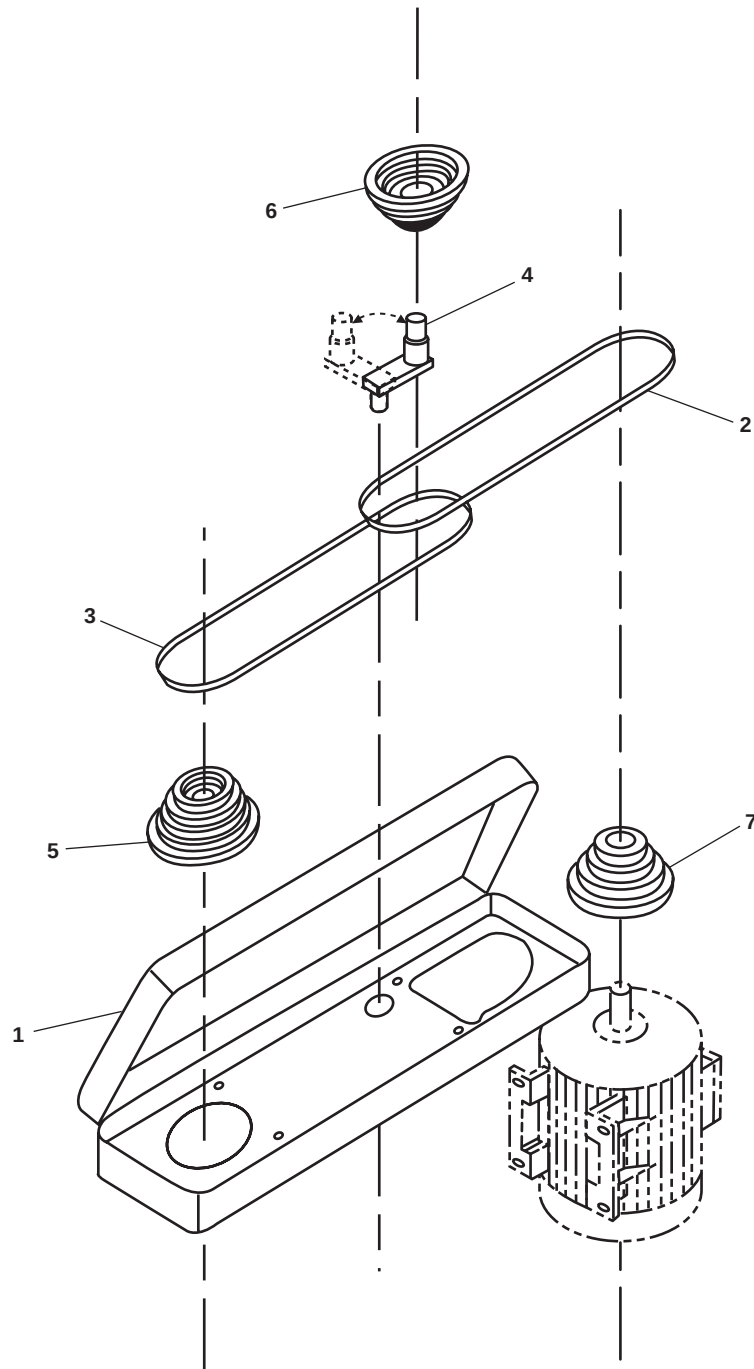

Figure 2. Drill Press Components
1. Open the pulley cover (figure 2, item 1) to gain access to the top V-belt (figure 2, items 2) and the bottom V-belt (figure 2, item 3).
2. Move the center pulley shaft (figure 2, item 4), toward the spindle pulley (figure 2, item 5) and pull the bottom V-belt (figure 2, item 3) upward and remove it from the center pulley (figure 2, item 6) and the spindle pulley.
3. Move the center pulley shaft (figure 2, item 4) toward the motor pulley (figure 2, item 7) and pull the top V-belt (figure 2, item 2) upward and remove it from the motor pulley and the center pulley.
1. Move the center pulley shaft (figure 2, item 4) toward the spindle pulley (figure 2, item 5) and install the new bottom V-belt (figure 2, item 3).
2. Move the center pulley shaft (figure 2, item 4) toward the motor pulley (figure 2, item 7), and push the top V belt (figure 2, item 2) down onto the center pulley (figure 2, item 6) and the spindle pulley (figure 2, item 5).
3. Close the cover (figure 2, item 1).